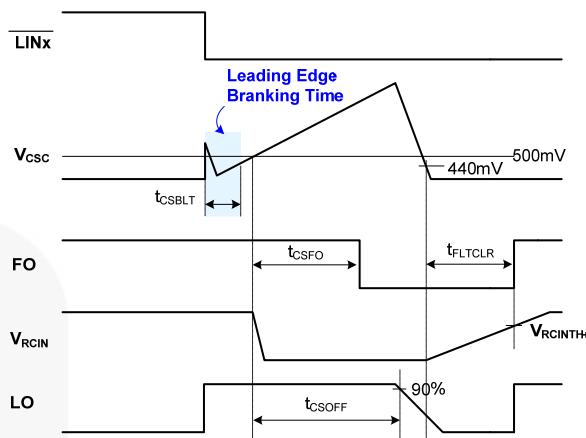

Figure 42. RCIN and Fault-Clear Waveform Definition
Figure 42 shows the waveform definitions of RCIN, FO, and the low-side driver; which uses a soft turn-off method when an under-voltage condition of the low-side gate driver supply voltage (V_{DD}) or the current-sense pin (CS) recognizes a fault. If a fault condition occurs, the FO Pin is internally pulled to COM and all outputs (HO1,2,3 and LO1,2,3) of the gate driver are turned off. Low-side outputs decline linearly by the internal sink current source ($I_{SOFT}=40\text{mA}$) for soft turn-off, as shown in Figure 42.